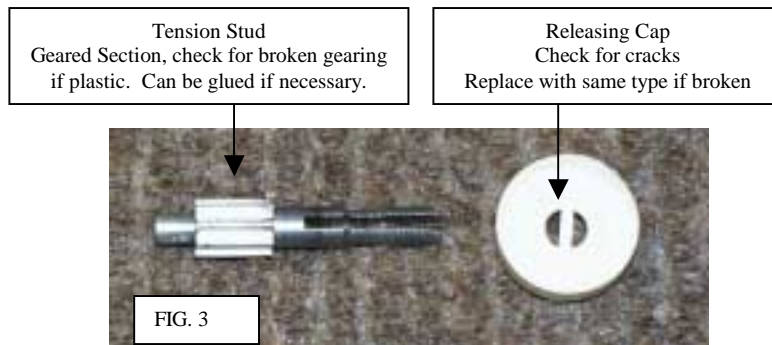

FIG. 4
1. Assemble the 3 Tension Discs, Tension Thread Guide and Check Spring. See figure 4.
2. Slide the above unit onto the Tension Stud, and place the Check Spring facing down. See figure 4.
8. Make sure the Take Up Lever is at its highest position. See bottom of figure 4.